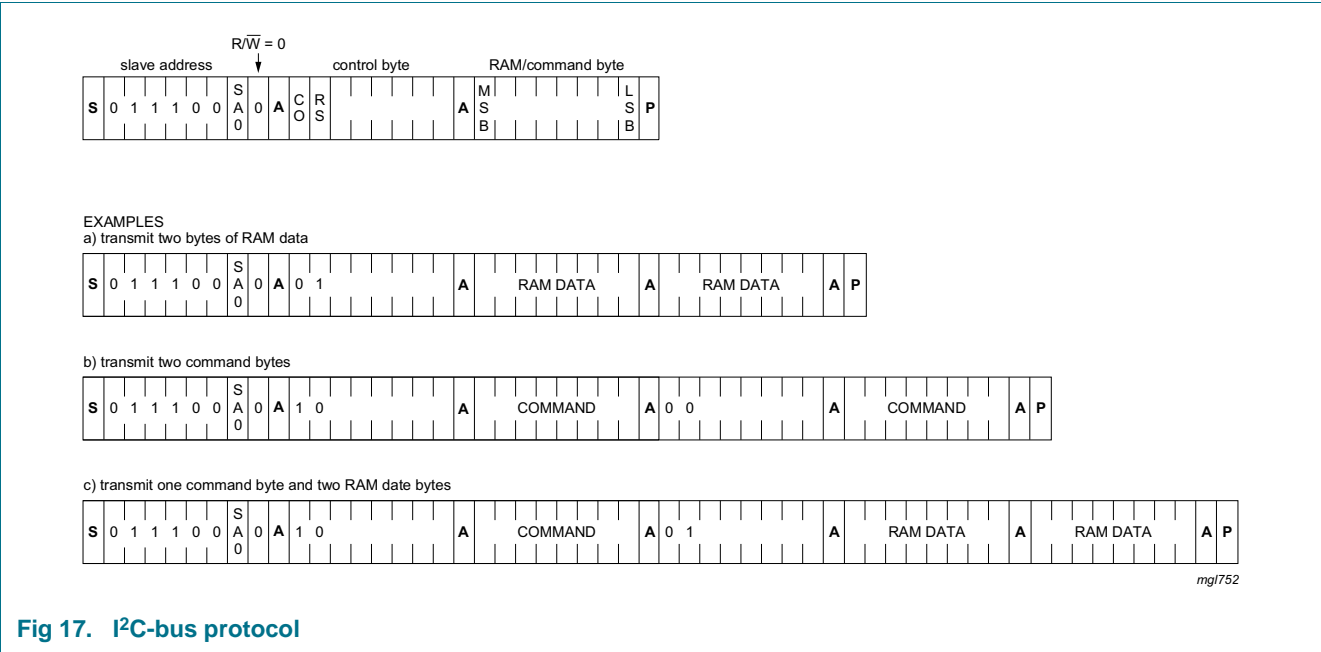

Fig 17. I²C-bus protocol
The I²C-bus protocol is shown in Figure 17. The sequence is initiated with a START condition (S) from the I²C-bus master which is followed by one of the available PCA85233 slave addresses. All PCA85233 with the same SA0 level acknowledge in parallel to the slave address. All PCA85233 with the alternative SA0 level ignore the whole I²C-bus transfer.